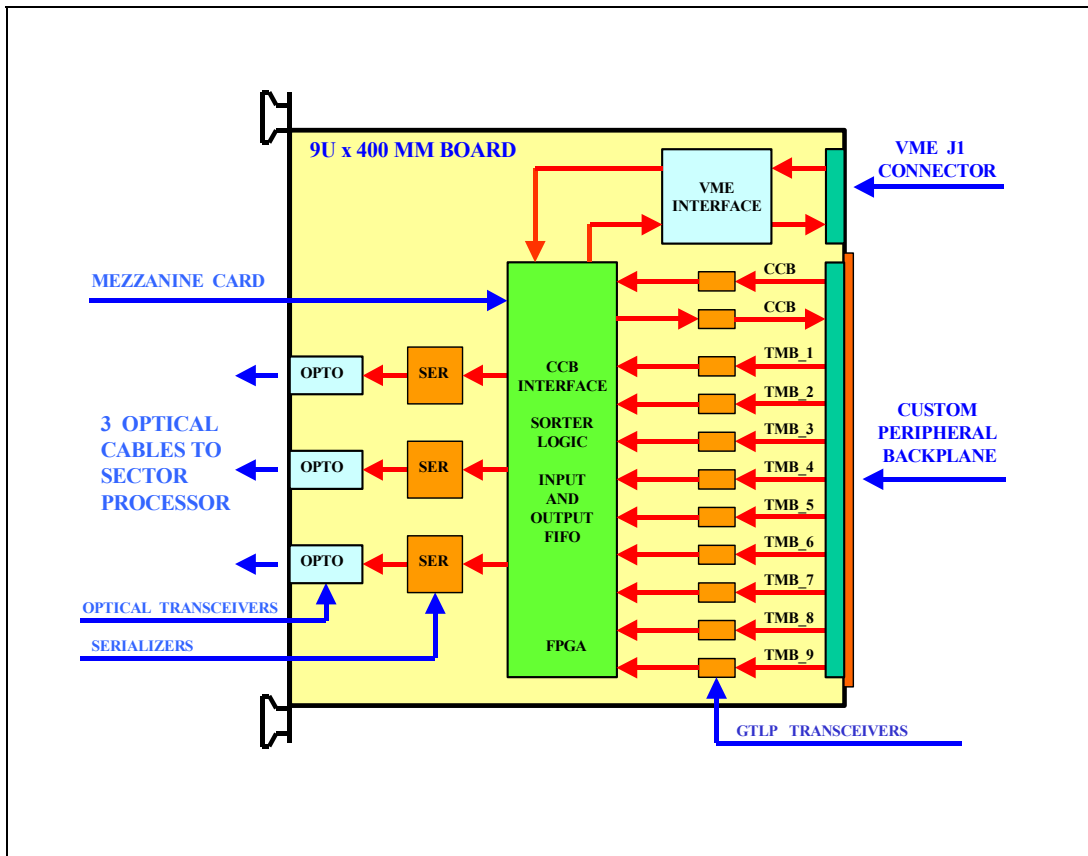

Figure 1: Block Diagram of the Muon Port Card
In each of stations 2-4 of the Cathode Strip Chambers (CSC) at the CMS Experiment, the Muon Port Card (MPC2004) receives up to two trigger primitives (called Local Charged Tracks, or LCT) from nine chambers corresponding to 60 degree sectors, or 18 in total. The MPC2004 reduces the number of LCTs to three and sends them over optical links to Sector Processors (SP) [1] residing in the Track Finder (TF) crate. In station 1, it receives LCT's from eight chambers corresponding to 20 degree sectors. For this region the total number of selected LCT's is two. The MPC2004 resides in the middle of the 21-slot 9U crate that is located on the periphery of the return yoke of the CMS detector. Other slots in a crate are occupied with the Trigger Motherboards (TMB) [2], DAQ Motherboards [3], Clock and Control Board (CCB) [4] and the VME controller. A simplified block diagram of the MPC2004 board is shown on Figure 1.